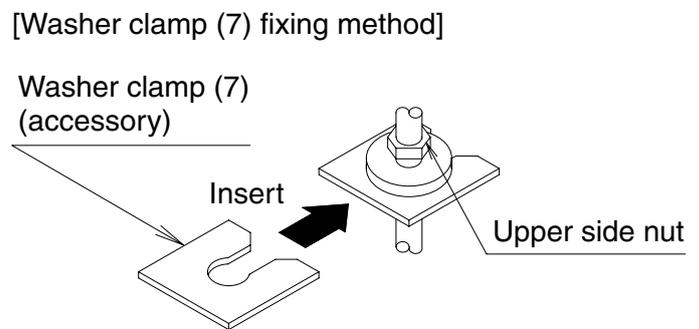

Fig. 3
If the washer clamp (7) is used, the upper side washer for hanger (3) may be protected from falling off. (Refer to Fig. 3)